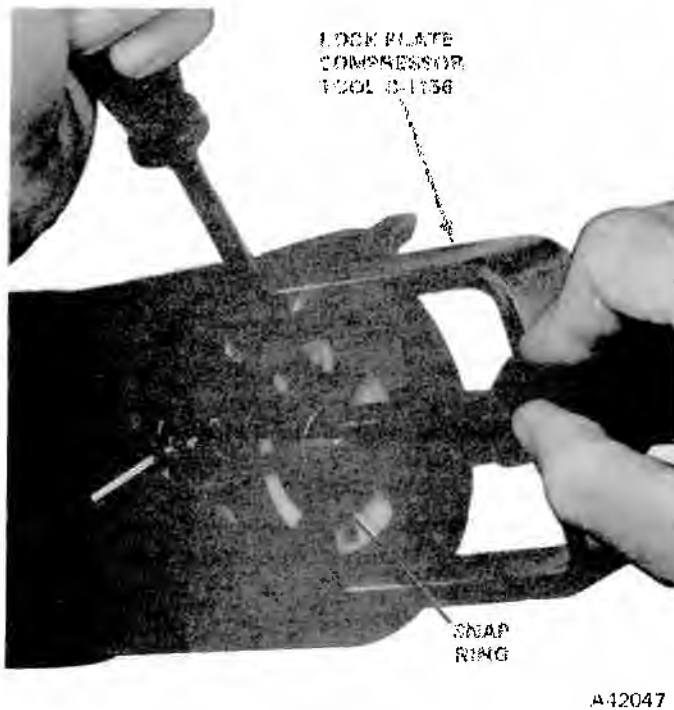

Fig. 11-5 Lock Plate Snap Ring Removal
(6) Use Lock Plate Compressor Tool J-23653 to depress lock plate (fig. 11-5).
(1) Disconnect battery negative cable.
(2) Cover painted areas of column.
(3) Remove instrument panel lower finish panel.
(4) Remove steering wheel.
(5) Loosen anti-theft cover retaining screws and lift cover from column. It is not necessary to completely remove these screws as they are held on cover by plastic retainers.
(6) Use Lock Plate Compressor Tool J-23653 to depress lock plate. Once lock plate is depressed, remove round wire snap ring from steering shaft groove (fig. 11-5).
(7) Remove Lock Plate Compressor Tool.
(8) Remove snap ring, lock plate, directional signal canceling cam, upper bearing preload spring, and thrust washer from steering shaft.
(9) Place directional signal actuating lever in right turn position then remove lever.
(10) Depress hazard warning light switch, located on right side of column adjacent to key lock, then remove button by turning it in a counterclockwise direction.
(11) With shift lever in Park, remove shift lever pivot pin with a punch, and remove lever.